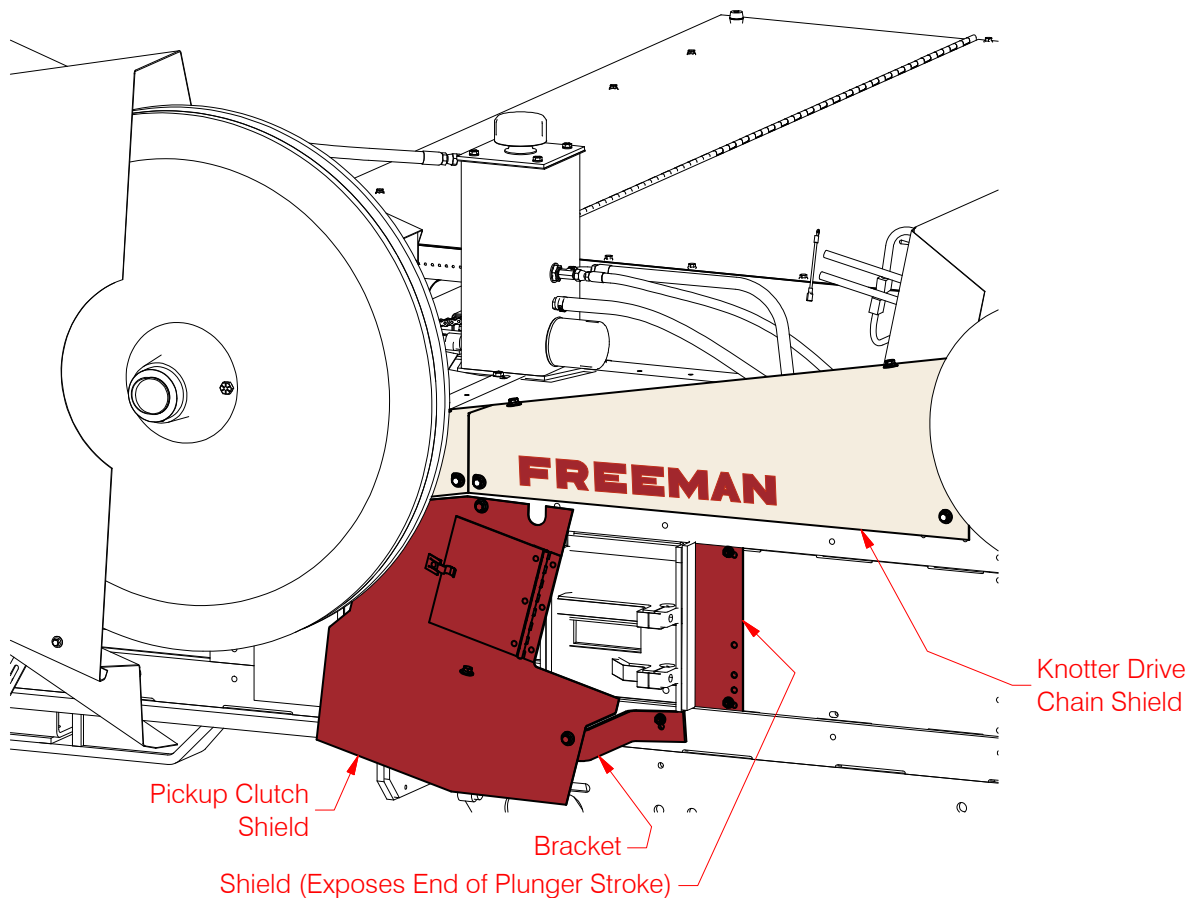

Figure 2 Remove Shields and Brackets
Remove the pickup clutch shield and its two (2) mounting brackets. See Figure 2
Replace the pickup shield brackets and shield. See Figure 2.